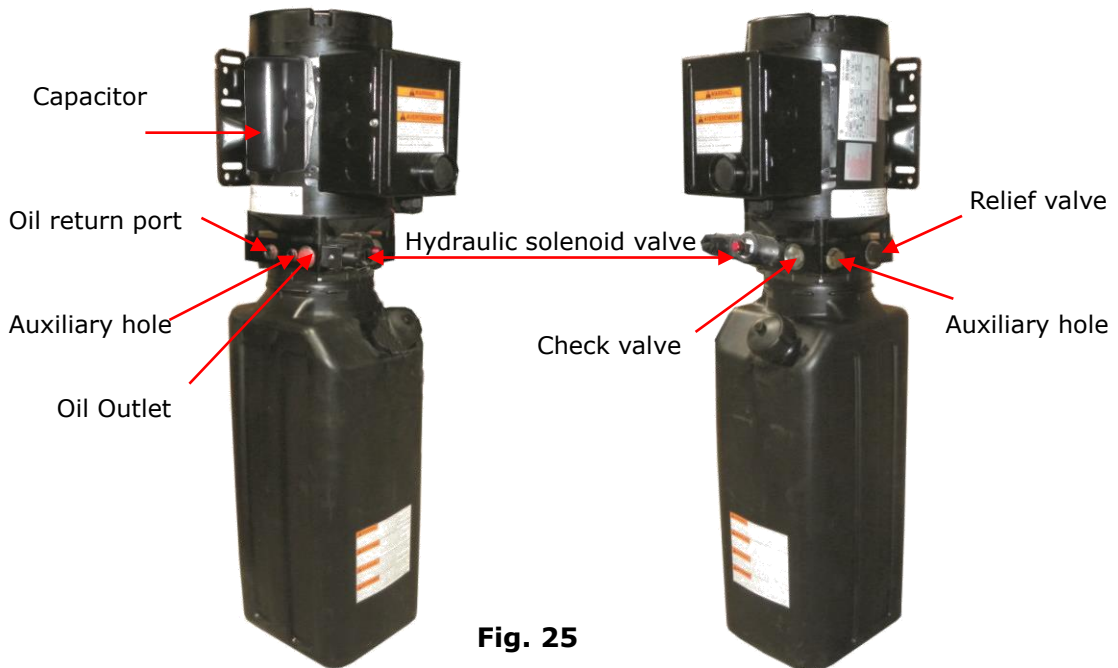

Fig. 25
a. SPX Electric power unit, 220V/50HZ/1 phase (See Fig. 25)